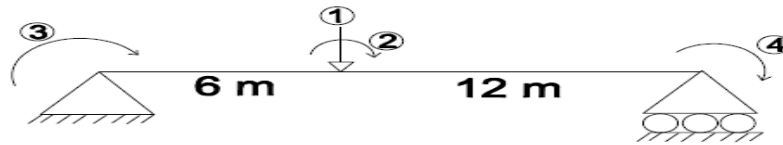

Figure 1
- 1 Develop the flexibility matrix for the given beam [Figure.1] with reference to the co-ordinates shown. EI is constant.